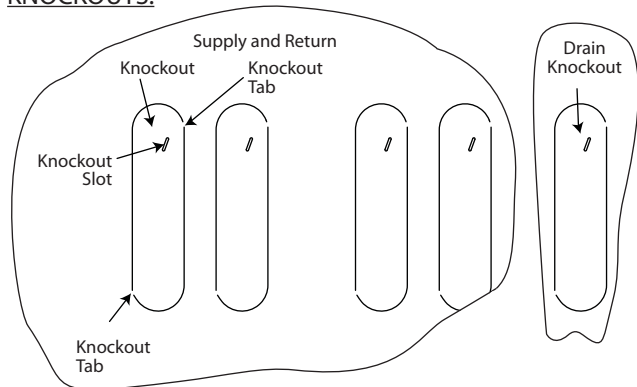

Figure 4
3. Insert a flat head screw driver into knockout slot shown in Figure 4.